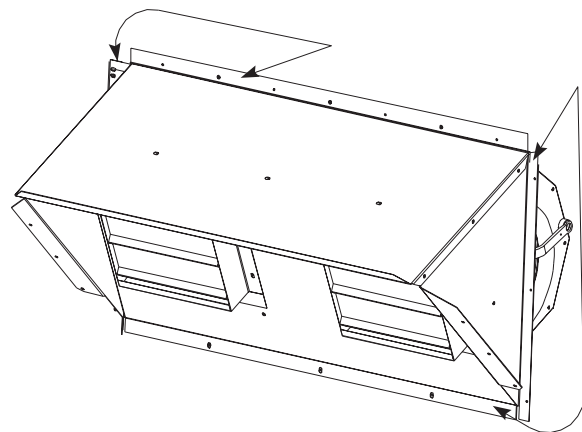

Fig. 4 — Hood Assembly
3. Position the power exhaust damper assembly at the return end of the unit. Add seal strip to the edges of the hood assembly. See Fig. 4. The long piece of seal strip is for the top and bottom and the short piece is for the two sides.
2. Position the barometric relief assembly at return end of unit. Add seal strip to the edges of the hood assembly. See Fig. 4. The long piece of seal strip is for the top and bottom. The short piece is for the two sides.